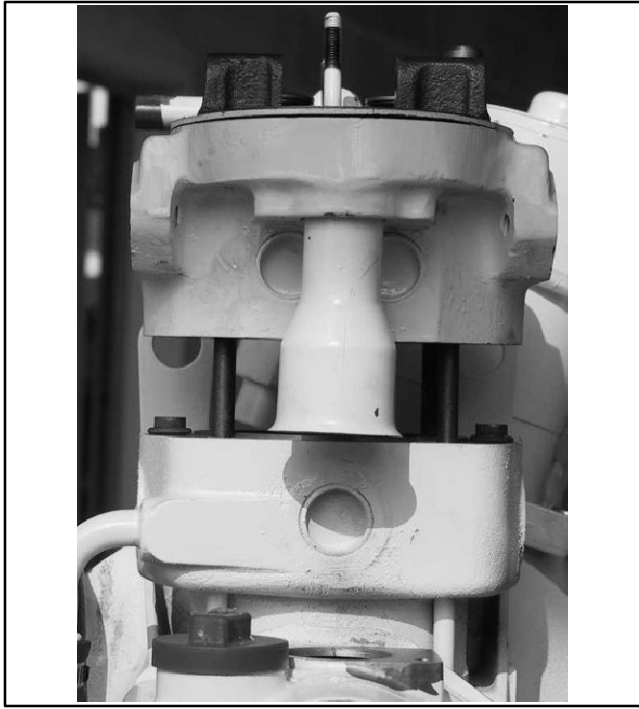

Figure 10-33 Protective Tube
- Hold the protective tube and remove the cylinder head. See Figure 10-33.